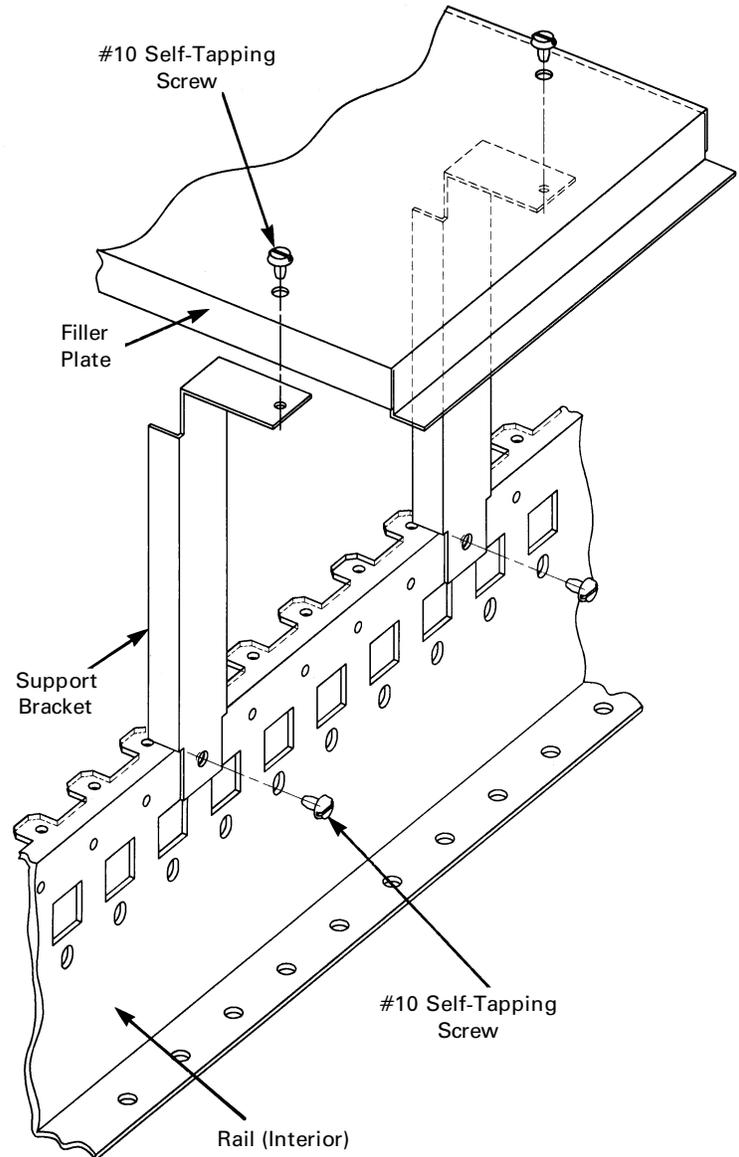

Figure 1. Installing type APP filler plates.
1. Attach the support brackets to each outer rail of the interior with the #10 self-tapping screws provided. Tighten the screws to 25–30 in-lb. See Figure 1.